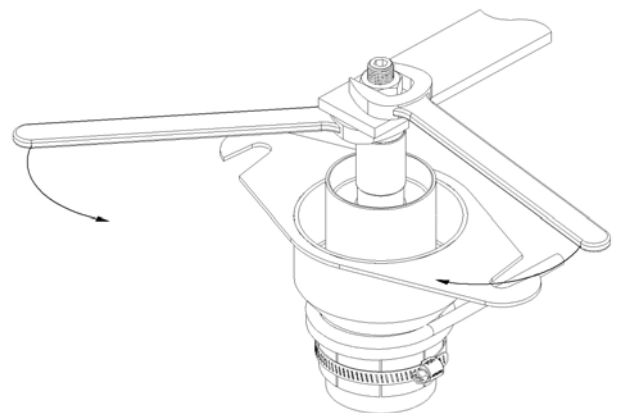

Fig. 2
4. Loosen the hose clamp on the 1K1703 and then using two opposing wrenches tighten the captive nut to secure the anode connection in place, as shown in Fig. 2. **DO NOT PUT UNDUE STRESS (>20 ft.lb) ON THE ANODE OF THE TUBE. THIS WILL CAUSE THE GLASS TO CRACK, LOSE VACUUM AND VOID THE WARRANTY!**